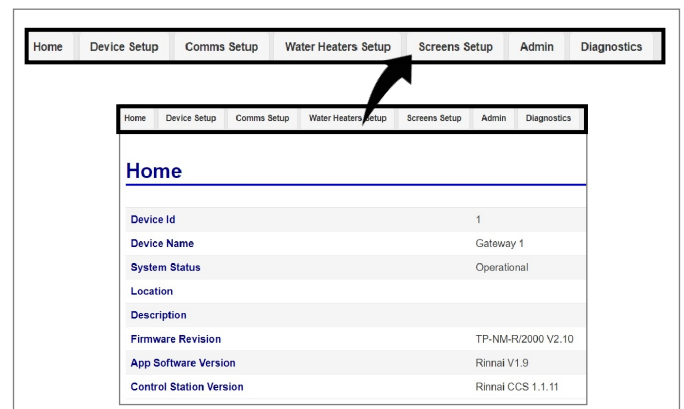

Fig 51. BMS Gateway Software Tabs
4. The following tabs are located across the top of the screen (Fig 51). Each tab is described in the following sections.